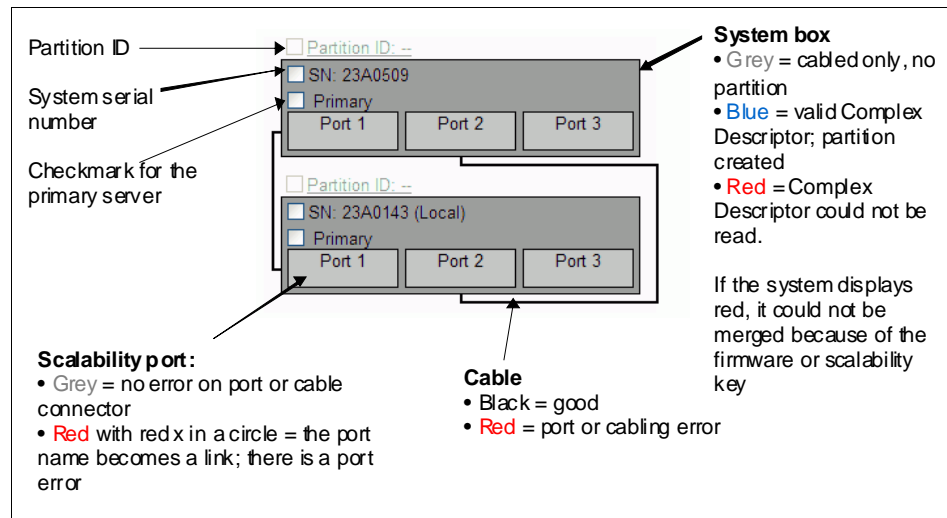

Figure 4-24 RSA II Web interface: complex health
This middle section of the Scalable Complex Management section, in Figure 4-18 on page 220, shows you the health of your partitioned systems. It provides an overview of the following information, as indicated in Figure 4-24:
- a. In the middle section, which shows the cabling (see Figure 4-24 on page 224), if you see any red-marked cable, check that you followed the cabling order in 4.6, “Cabling of multinode configurations” on page 209.
**Tip:** The serial number that is highlighted as Local system, as shown in Figure 4-24 on page 224, is the physical node that you are currently accessing by using the RSA II Web interface.